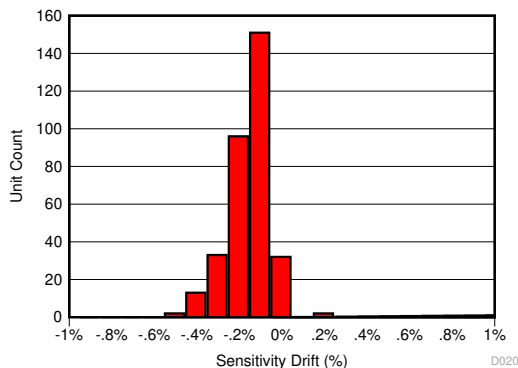
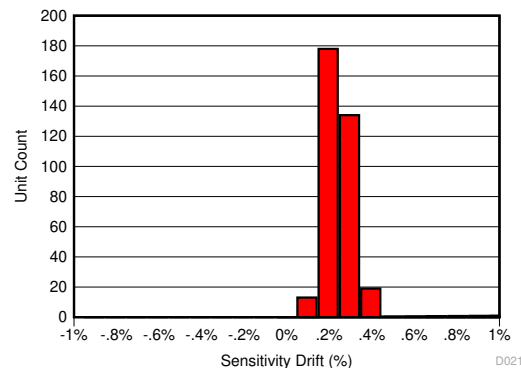
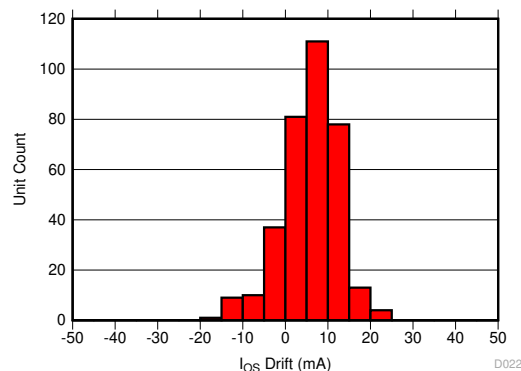

图 9-1. Sensitivity Error After 130°C, 85% RH HAST
图 9-2. Sensitivity Error Drift After AEC-Q100 High Temperature Operating Life Stress Test
图 9-3. Input-Referred Offset Drift After AEC-Q100 High Temperature Operating Life Stress Test
to 3% of sensitivity drift due to aging at high operating temperatures. The TMCS1108 has greatly improved lifetime drift, as defined in the Electrical Characteristics table for total sensitivity error measured after the worst-case stress test during a three lot AEC-Q100 qualification. All other stress tests prescribed by an AEC-Q100 qualification caused lower than the specified sensitivity error, and were within the bounds specified within the Electrical Characteristics table. 图 9-1 shows the total sensitivity error after the worst case stress test, a Highly Accelerated Stress Test (HAST) at 130°C and 85% relative humidity (RH), while 图 9-2 and 图 9-3 show the sensitivity and offset error drift after a 1000 hour, 125°C high temperature operating life stress test as specified by AEC-Q100. This test mimics typical device lifetime operation, and shows the likely device performance variation due to aging is vastly improved compared to typical magnetic sensors.